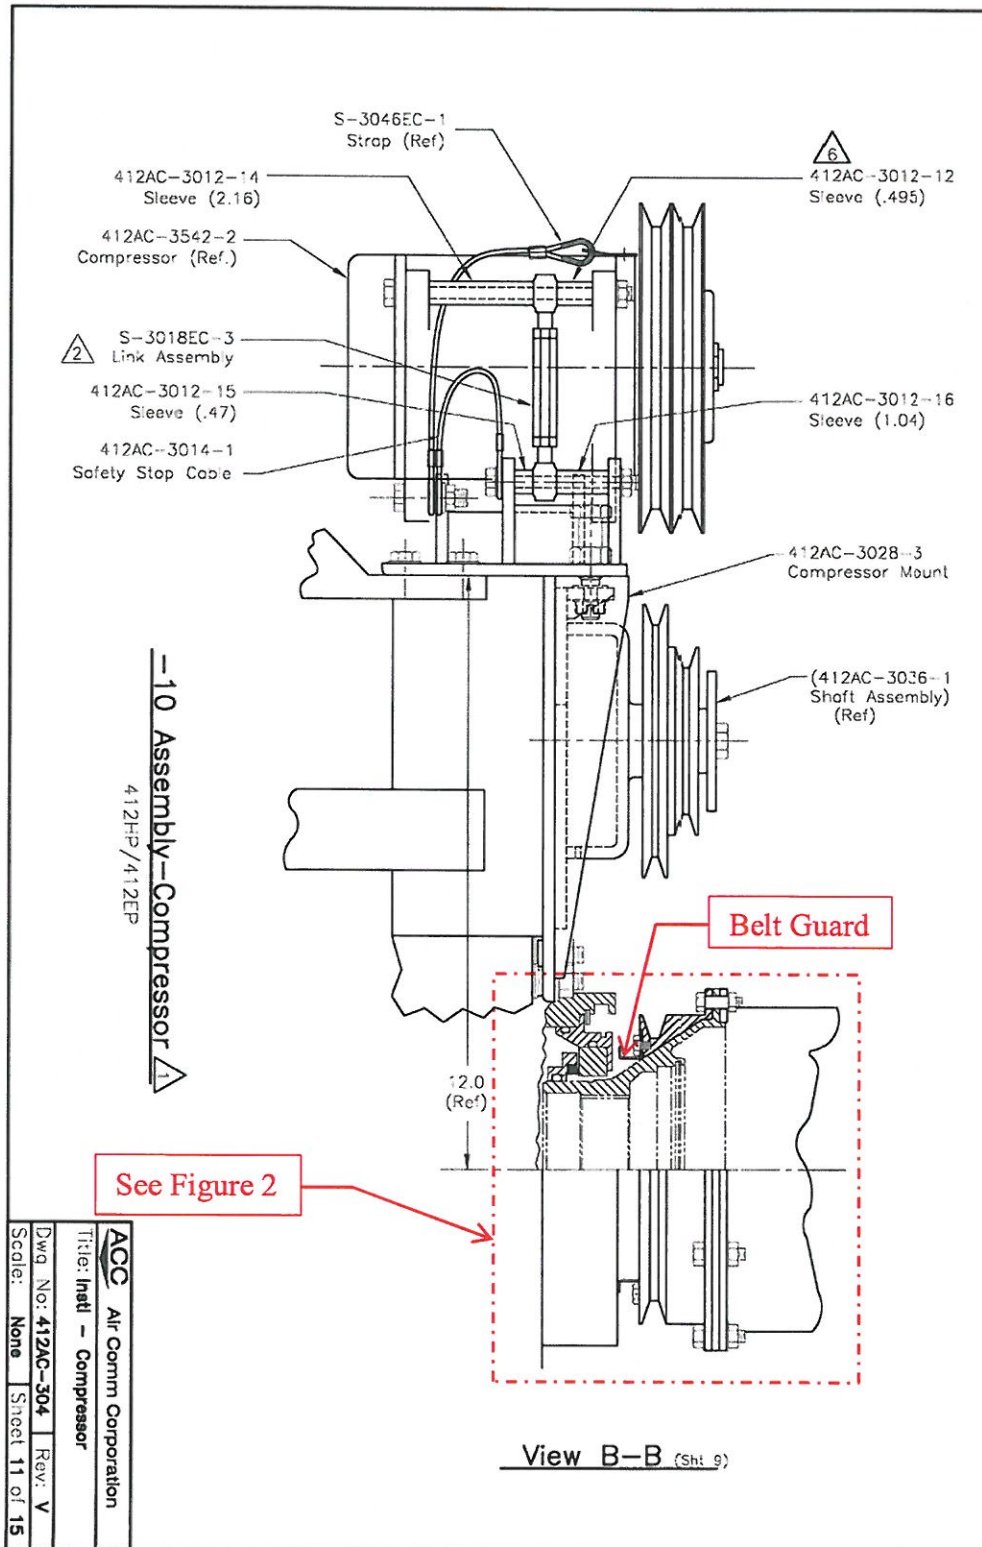

Figure 1. Compressor Drive Installation View
- 1) Referring to Figures 1 & 2 above, ensure that the lock wire and NAS1802 screws securing the belt guard to the pulley are all in place.